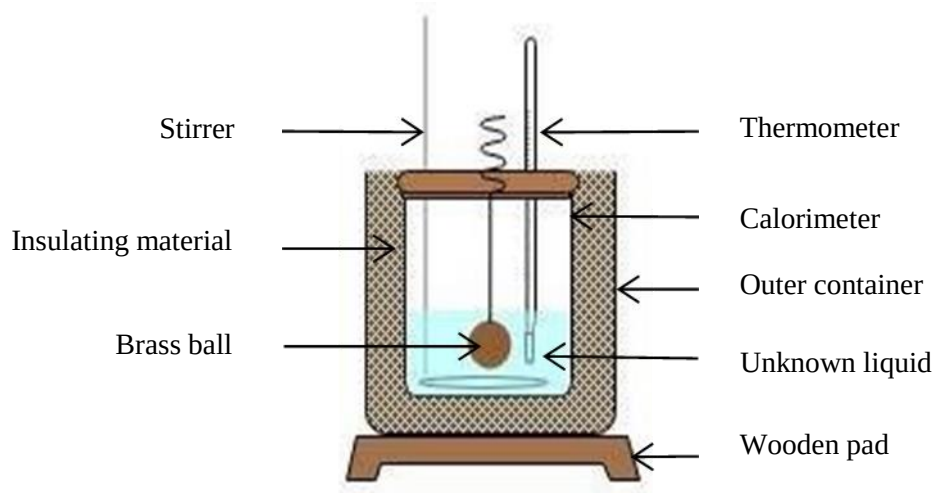

Fig. 3: Experimental setup for determination of specific heat capacity of an unknown liquid
- g) Transfer the ball into the calorimeter with the liquid (as in Fig. 3).